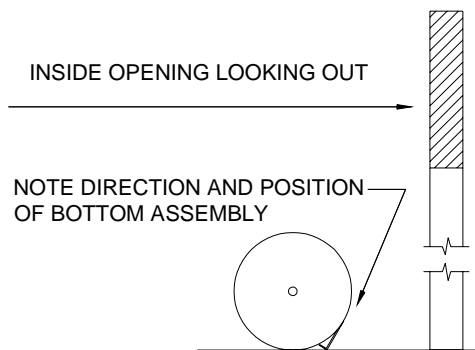

**Figure 2.**
4.1 Position the bracket tab on each bracket into the slot in the side guides and slide upward into place. Bolt the left and right door brackets to the door guides with one (1) 5/16" track bolt and whiz nut in each guide. (See Figure 2). **MAKE CERTAIN**